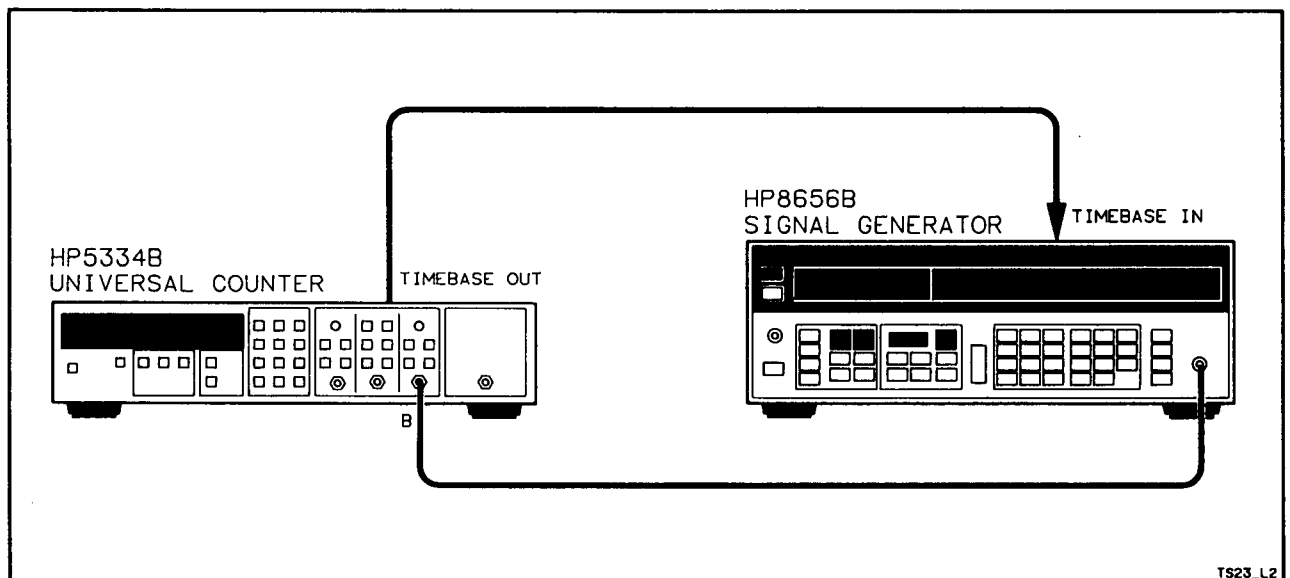

Figure 5-9. MRC Input Adjust/Channel B Setup
3. Connect the Signal Generator output to the 5334B Input B. Connect Time Base as shown in *Figure 5-9*.